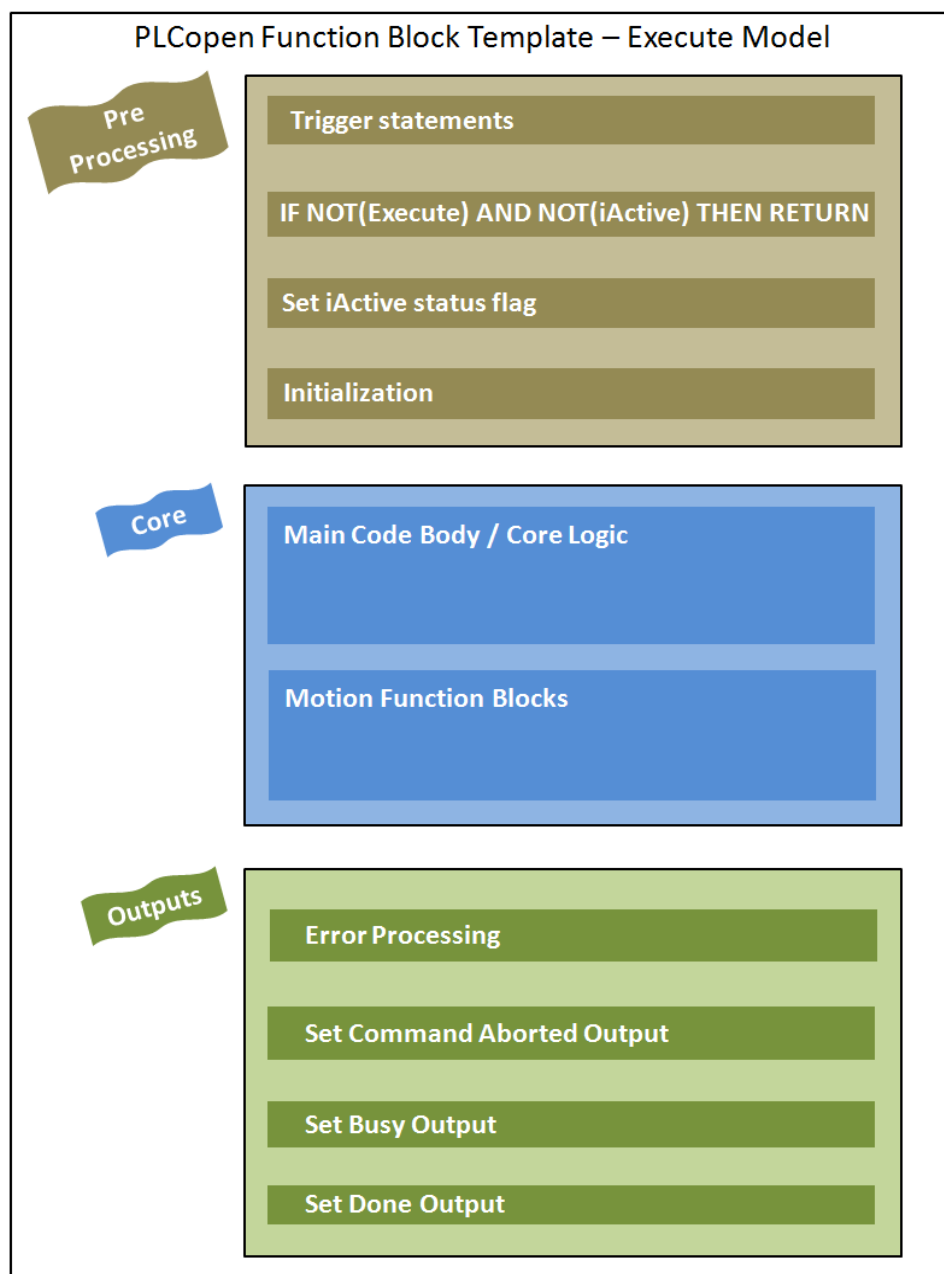

Figure 3: Execute Template in simplified form
Figure 3 is a representation of each part of the function block code. The order of operations is the same in Ladder Diagram (LD) or Structured Text (ST) programming. Code order is very important for ensuring consistent output behavior, which is essential for proper sequencing and error trapping, especially when function blocks are triggered using an R_TRIG one shot.
What follows is a detailed explanation of the code sections depicted in Figure 3 on page 7.